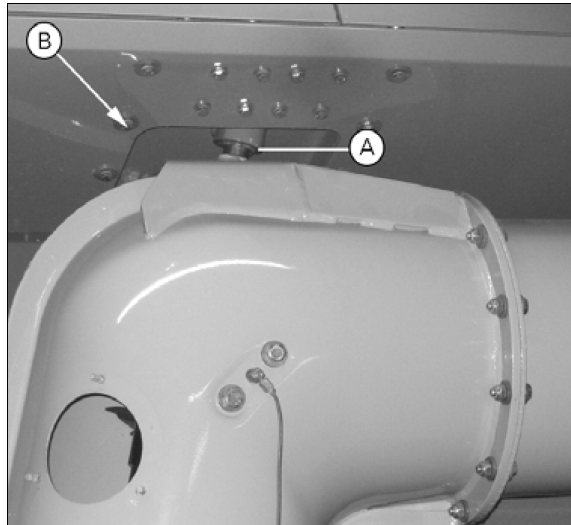

Fig. 1.
- Once the complete unloading auger has been fitted, the position of the top bearing (A) (fig. 1) should be adjusted. Undo the bolts (B) (fig. 1), check that the horizontal unloading tube is seated correctly in the supporting bracket (C), and tighten the bolts again.
- Fit the bolt in the gas strut (3) (fig. 1), then fit the cotter bolt (2) (fig. 1) in the linkages.
- Finally, climb through the hatch into the grain tank to check that the covers fit tight against the grain tank. Adjust the linkages (B) if required.
- The grain tank sides can be adjusted at (C).